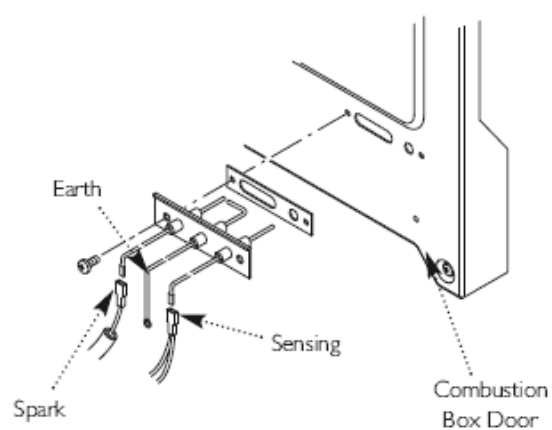

Fig. 51
15.5 Spark and Sensing Electrodes (Fig. 51)